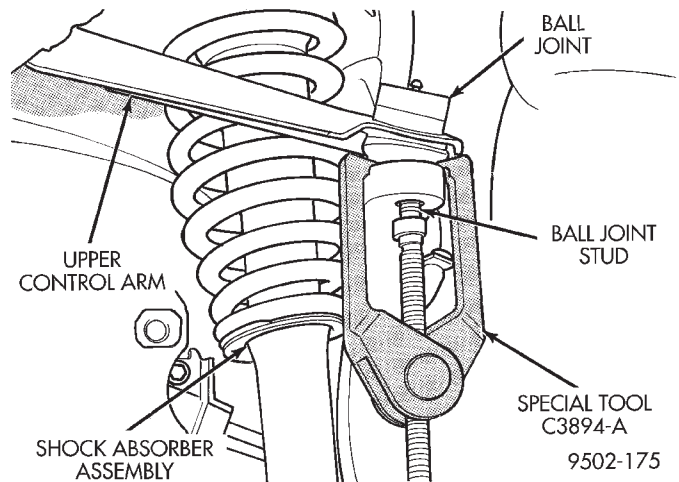

Fig. 25 Ball Joint Stud Removal From Steering Knuckle
(18) Remove the upper ball joint stud from the steering knuckle using Puller, Special Tool, C-3894-A (Fig. 25).
(19) Remove steering knuckle from vehicle.